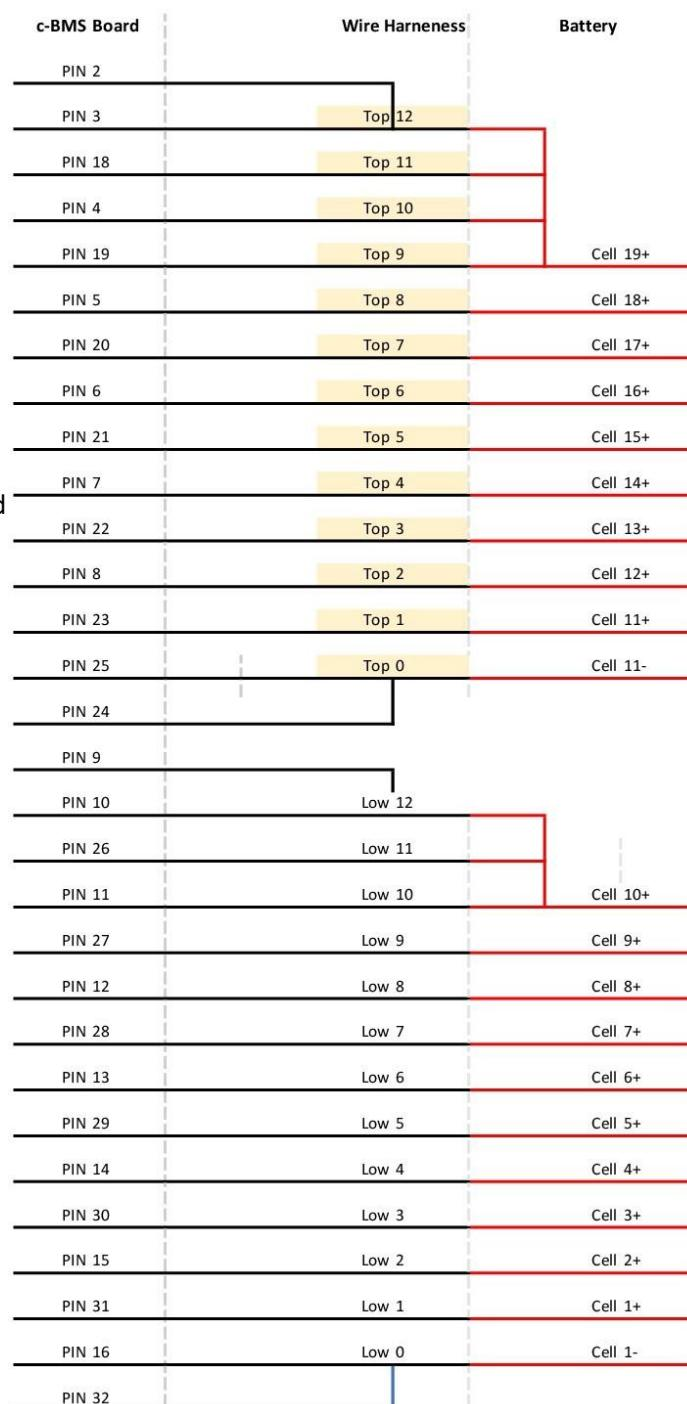

Figure 2.11: Example for 19 cell connection.
The 100932 cable has been designed to support these functions for systems with >12 cells by internally connecting the c-BMS ASIC power pins to the appropriate cell wires. An example of how to connect the 100932 cable to battery cells are given below for a case with 19 cells, please see Figure 2.11. This approach assures that:
1. E.g. if 19 cells are used connect 10 cells to 'Low' (Low0 to Low10) and 9 cells to 'Top' (top0 to top9), see Figure 2.11